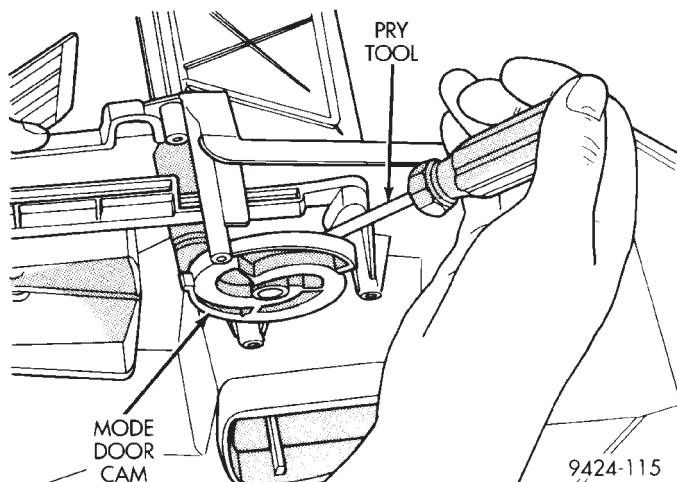
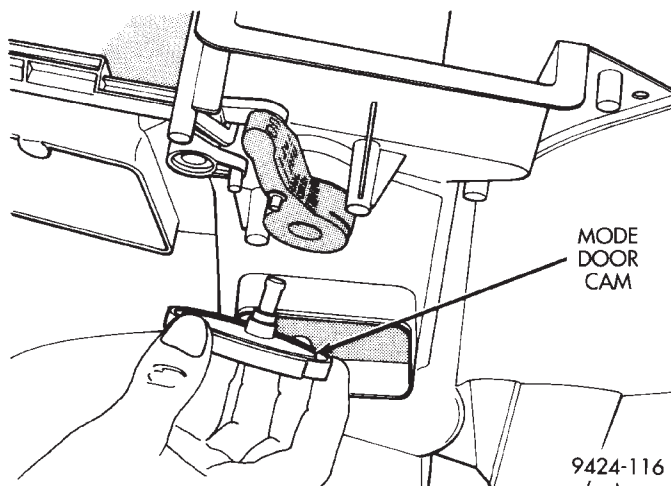

Fig. 77 Mode Door Actuating Cam Removal Using Pry Tool
Fig. 78 Cam Removal
(22) Remove mode door actuating cam (Fig. 77) and (Fig. 78).